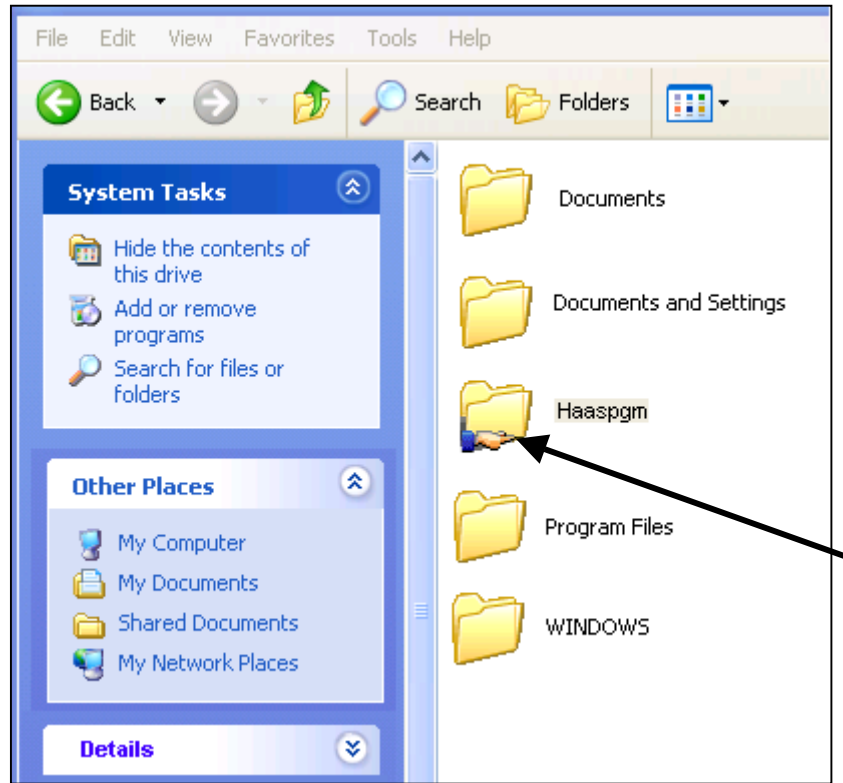

Figure 2
3. Setting 'K', Path, is a folder that can be "Shared" by other users on the network. The folder called "HAASPGM" in Figure 2 below, is a shared folder as indicated by the small hand on the lower left corner folder. See the original ENET Procedures for setting up a shared folder.